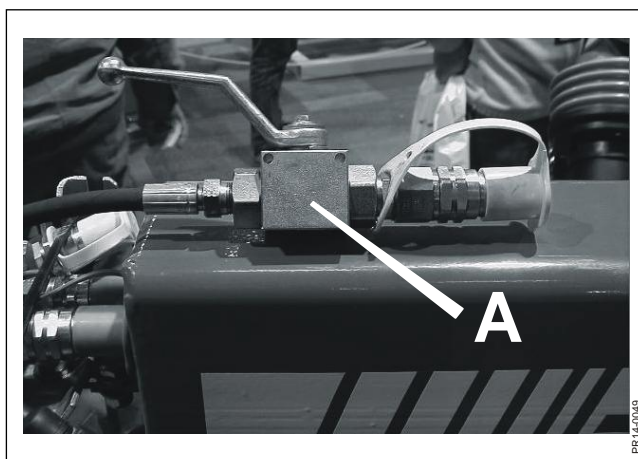

Fig. 3-2
**Fig. 3-2 BEFORE TRANSPORT CLOSE THE BALL VALVES** that are placed by the quick-release couplings of the tractor. The valve is shown in open position and is turned off when the handle is turned 90 degrees.